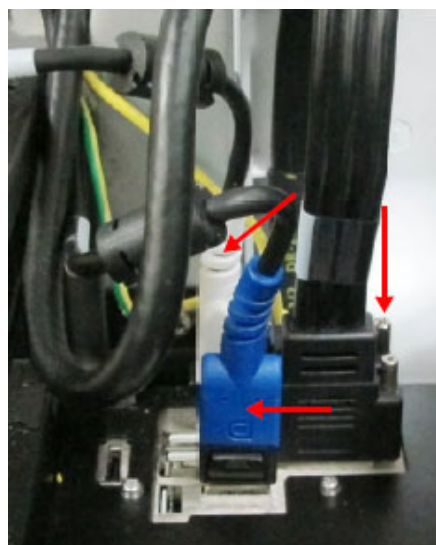

Figure 8-112 Disconnect Cables from Internal BIF Panel
3.) Disconnect all cables from the Internal BIF Panel located above the Cabinet Cage Module - see Figure 8-112.